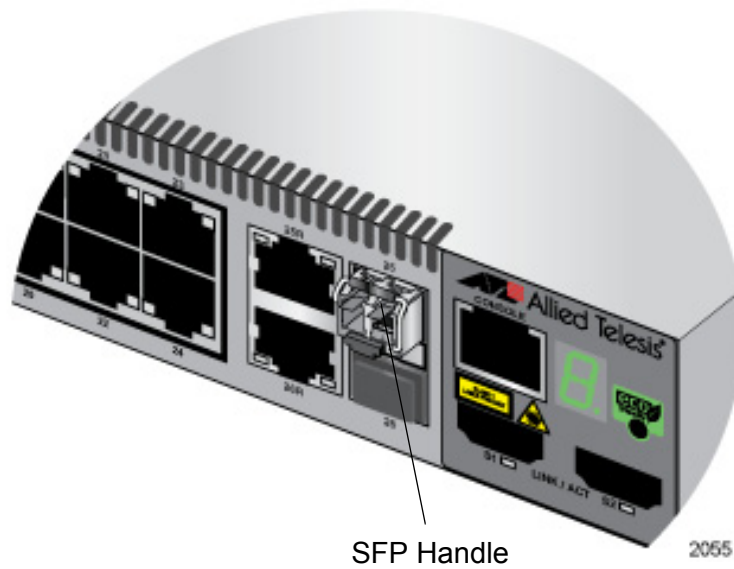

Figure 32. Positioning the SFP Handle in the Upright Position
6. Verify that the handle on the SFP transceiver is in the upright position, as shown in Figure 32.